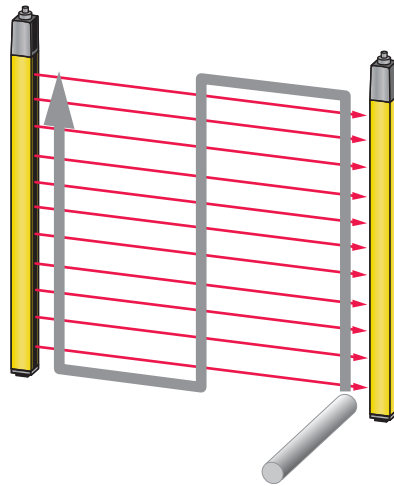

Figure 9.1: Checking the protective field function with test rod (only for safety light curtains with a resolution of 14 to 40 mm)
<ul style="list-style-type: none"> <li>↪ During operation, interrupt an active light beam with a test object provided for this purpose (see figure 9.1).</li> </ul> Is the dangerous movement shut down immediately?
- ↪ Interrupt all light beams at different distances from the transmitter and receiver with the test rod from a position outside the danger zone (see figure 9.1) and ensure that the machine cannot be started with an interrupted light beam.